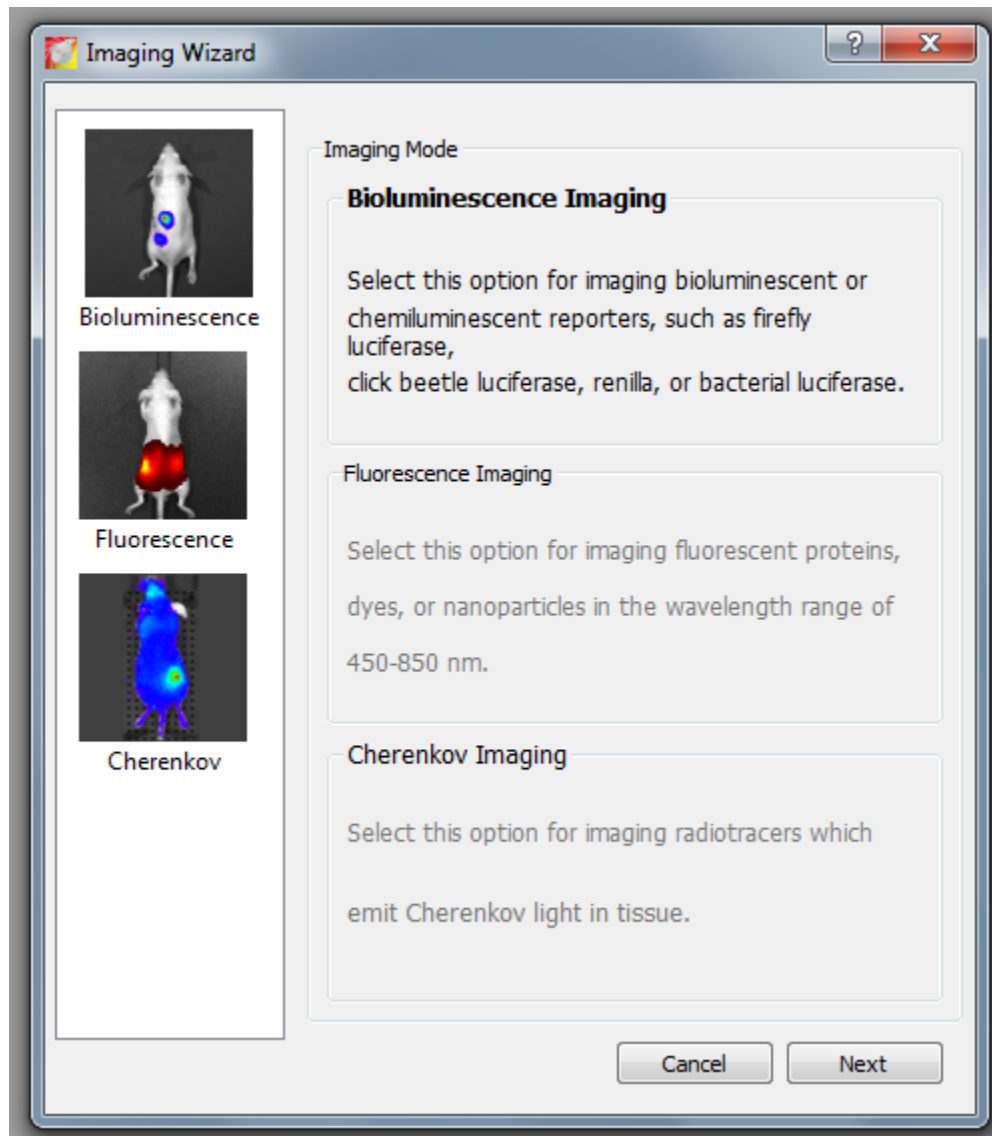

Figure 9: The figure above shows the Ivis Imaging Wizard window.
5. Use the imaging wizard while the camera is cooling. Choose bioluminescence, fluorescence, or Cherenkov imaging. See Figure:9